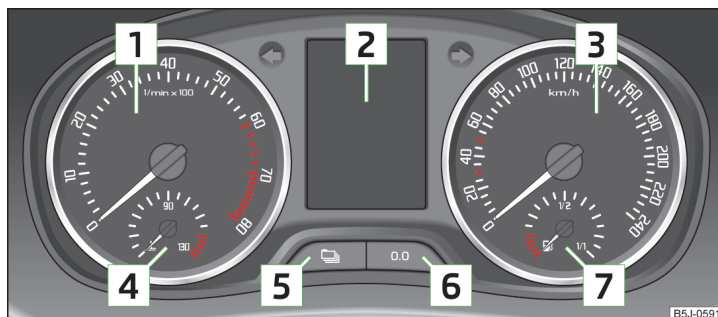

Fig. 20 Instrument cluster
The red scale range of the rev counter 1 » Fig. 20 on page 30 indicates the range in which the engine control unit begins to limit the engine speed. The engine control unit restricts the engine speed to a steady limit.
The coolant temperature gauge 4 » Fig. 20 on page 30 works only when the ignition is switched on.
The fuel gauge 7 » Fig. 20 on page 30 only works when the ignition is switched on.
The meter can be reset by pressing and holding button **[6]** » Fig. 20 on page 30.
The clock is set with buttons **[5]** and **[6]** » Fig. 20 on page 30.
- Press the **[5]** » Fig. 20 on page 30 key repeatedly, until the odometer display flashes » page 32.